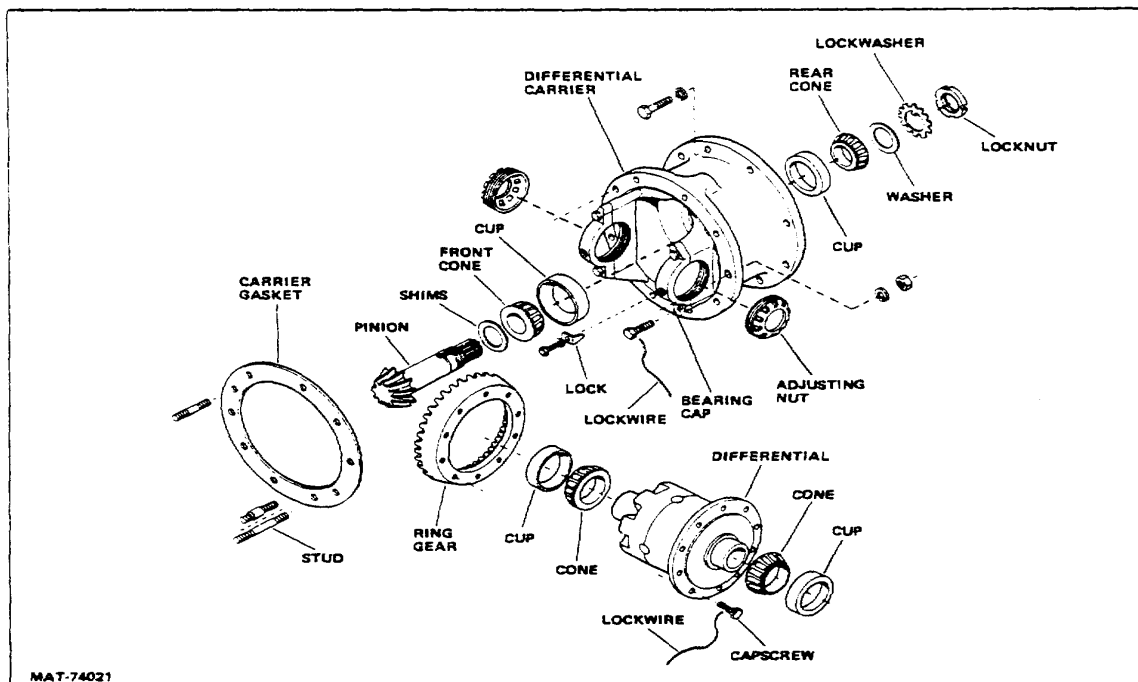

Figure 5-3. Differential Carrier Assembly - Exploded View
- c. Straighten tabs on lockwasher; remove locknut (Fig 5-3), lockwasher, and washer from end of pinion.
- d. Install rear cone (Fig 5-3), washer, lockwasher, and locknut. Tighten locknut so that 15-25 lb-in torque is required to turn pinion shaft. This will set proper preload on bearing. Bend lockwasher tabs down to secure locknut in place.